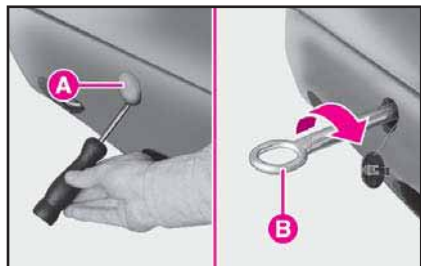
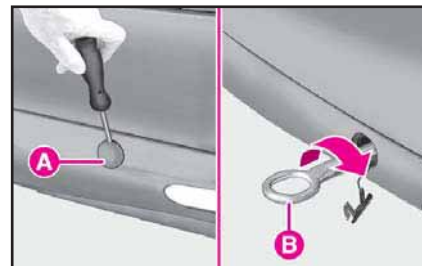

fig. 82
fig. 83
- Remove the clipped in **A** cover from the front (fig. 82) or rear bumper (fig. 83), by using a screwdriver as a lever in the point shown in the figure.